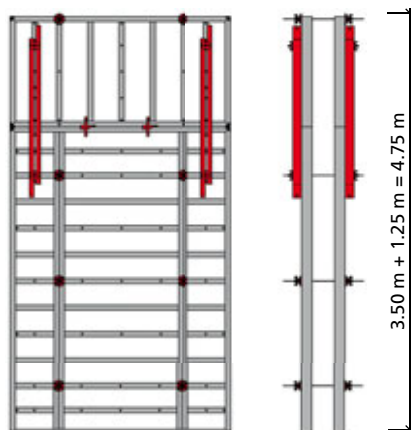

Fig. 33.4
■ When placing a panel with a maximum width of 1.25 m horizontally for extension and the total formwork height does not exceed 4.75 m, the top panel does not need tying at its bottom tie holes if you instead use 2 alignment rails RS 180 (Fig. 33.4).